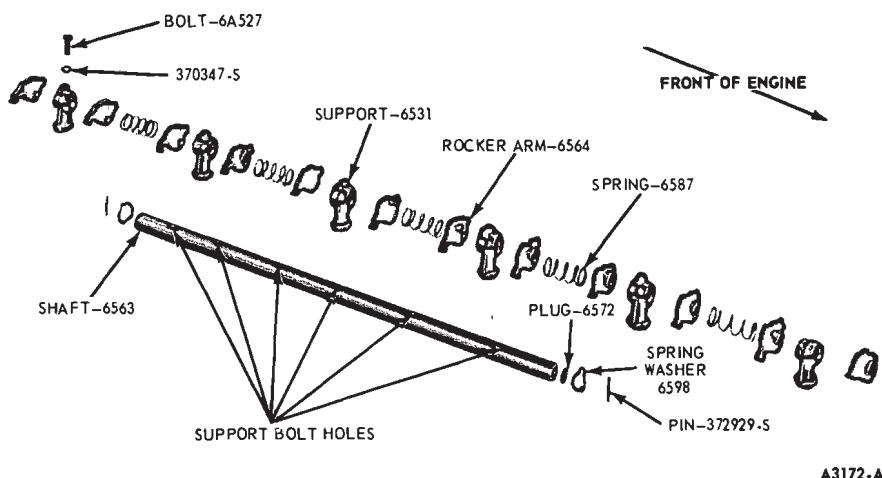

FIG. 12—Valve Rocker Arm Shaft Assembly
4. Install the valve rocker arms, supports, and springs in the order shown in Fig. 12. Be sure the oil holes in the shaft are facing downward. Complete the assembly by installing the remaining spring washer and pin.